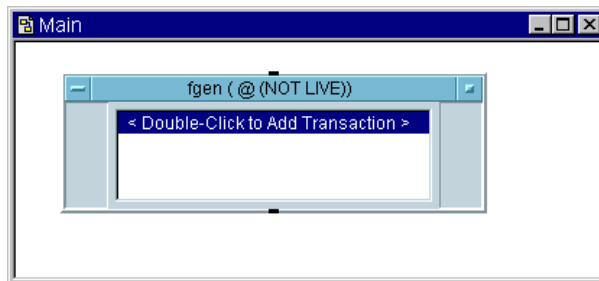

Figure 3-16. A Direct I/O Object
4. To place the object on the screen, make sure that `fgen (@(NOT LIVE))` is still highlighted, and click `Create I/O Object ⇒ Direct I/O`. Figure 3-16 shows the Direct I/O object.